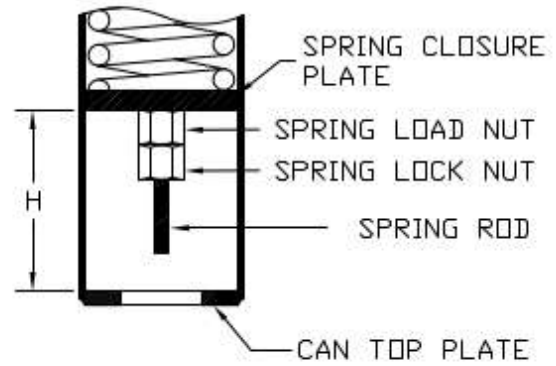

Figure 19B
1. Measure the distance between the inner face of the can's top plate and the outer face of the spring's closure plate; marked "H" in figure 19B (page 22).